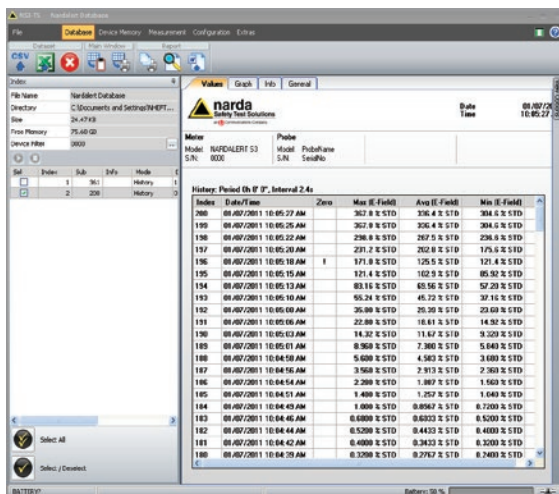
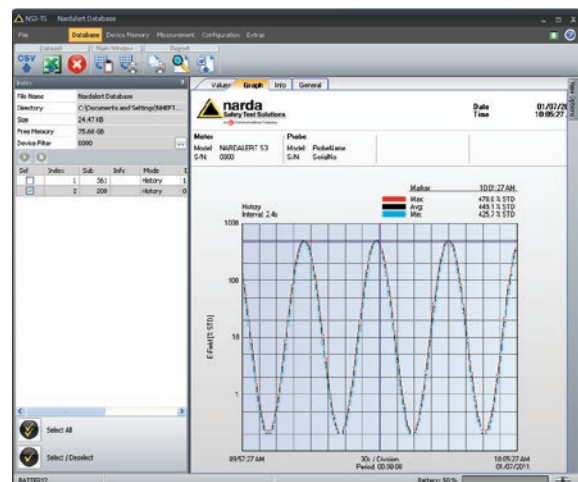

Figure 1
Figure 2
The Nardalert S3 software (NS3-TS) is supplied standard with every unit. Readings can be downloaded and displayed numerically (Figure 1) or graphically (Figure 2) by simply installing the software and plugging in the supplied USB cable.
- 2. Database** – Database management of files stored on computer (Figures 1 and 2)